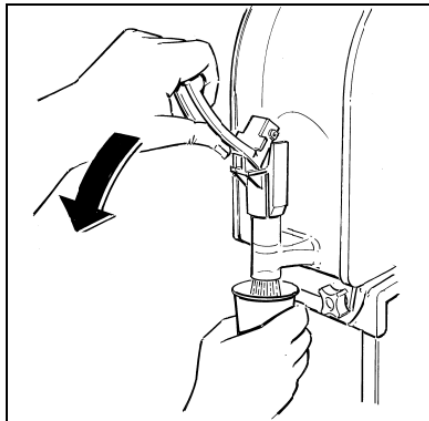

Fig. 12
1. To dispense the product, position the cup under the tap and pull the dispensing lever (see figure 12).